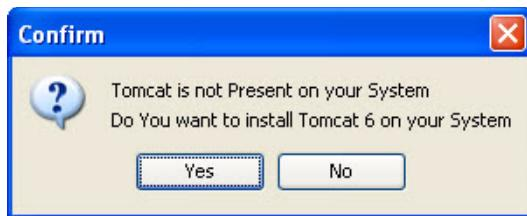

Figure 3-52. Install the QConvergeConsole: Install Tomcat on Your System
3. Under Flash, click **Update Entire Image** (Figure 3-52).
If the Apache Tomcat server is not installed, a message prompts whether you want to install Tomcat on your system (Figure 3-52).